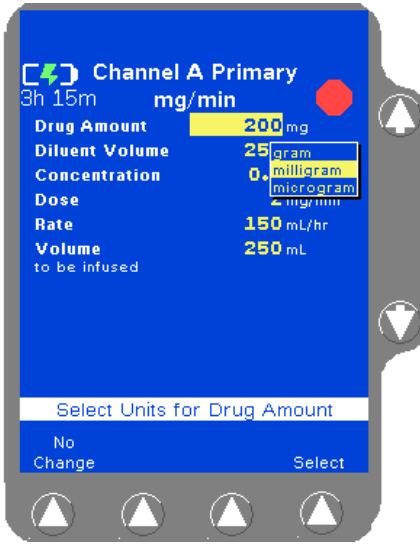

Figure 4-54 Units Change List
- 5.1 Press the **Units** soft key to display the Units Change list (Figure 4-54).